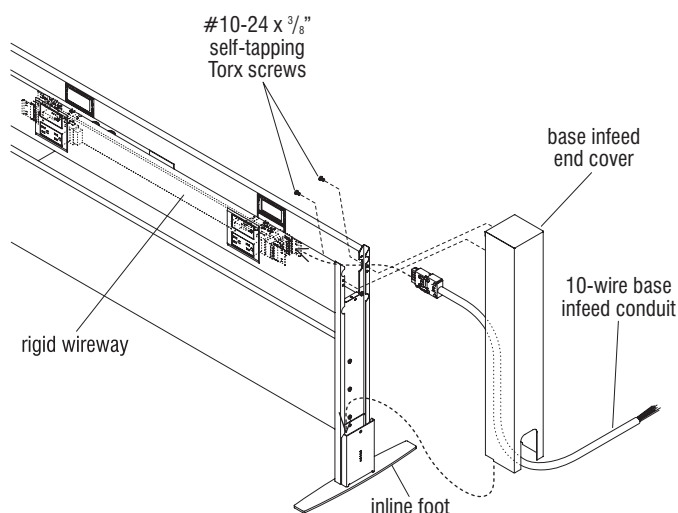

Figure 8 - End Base Infeed Power
1. Per the space-planning layout, determine which chase assembly end will have 10-wire base infeed conduit. Begin base infeed installation by first snapping the plug-end of the 10-wire base infeed conduit into the end of the rigid wireway in the trough assembly. Allow the remaining flexible conduit to drape down the end of the chase leg (Figure 8).
2. Take a base infeed end cover in hand, position it with the closed end to the top as illustrated and raise it over the inline foot at the power infeed end. Simply insert the bottom open end of the base infeed end cover over the upright bracket of the inline foot and slide it down such that the 10-wire base infeed flexible conduit exits through the bottom opening (Figure 8).
3. At the top of the base infeed end cover, use a 6" long T-25 driver bit (supplied) to attach two #10-24 x 3/8" self-tapping Torx screws through the upright of the chase and into the base infeed end cover as illustrated (Figure 8).